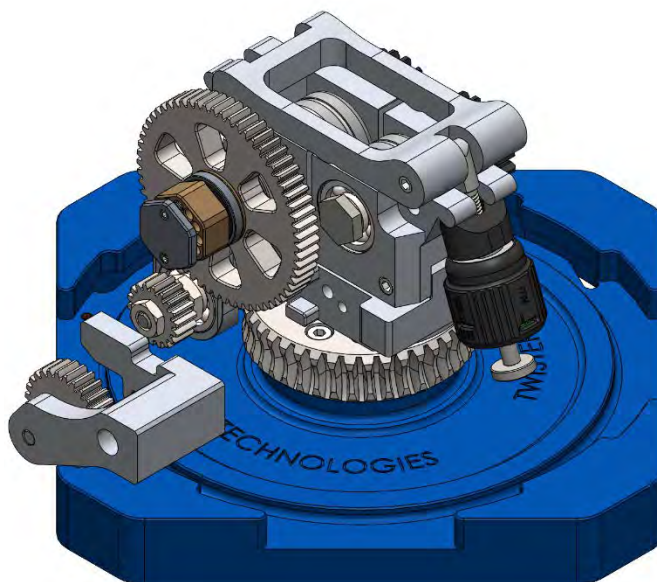

Figure 31
3. Remove the rotation module to be replaced. See figure 31;